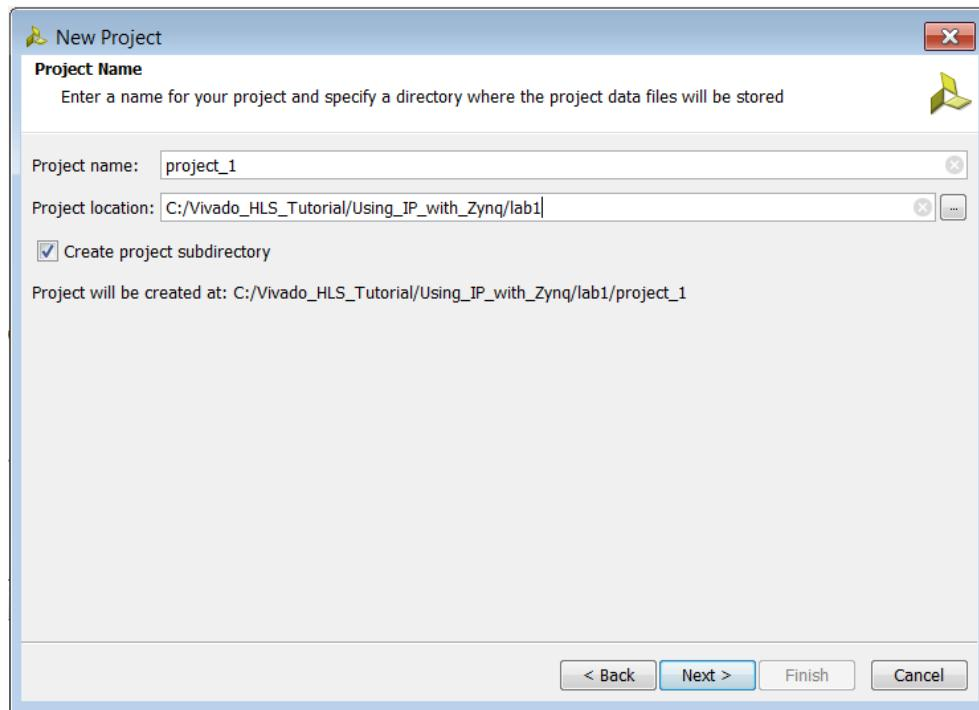

Figure 221 Specify the Vivado Project Directory
- b. In Project Location text entry box, browse to location of tutorial file directory and click Next (Figure 221).